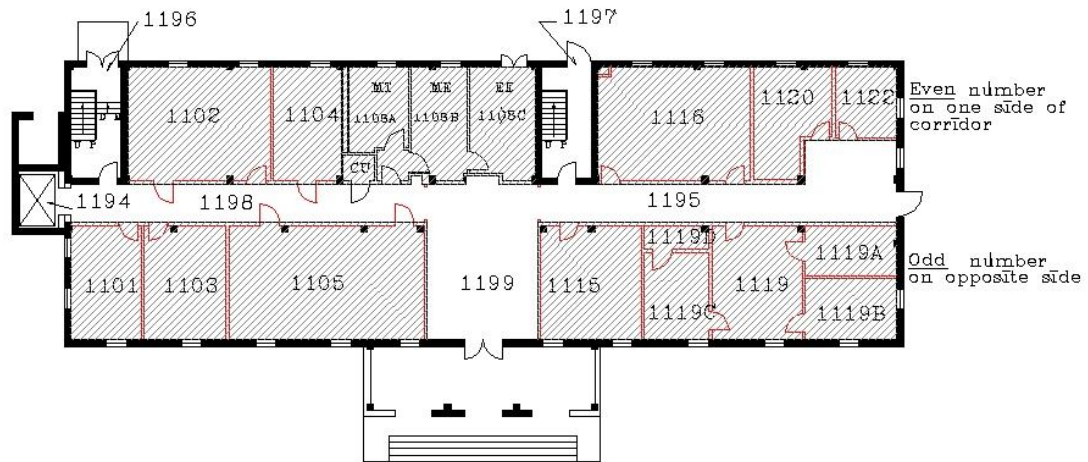

Figure 3
- All public corridors, lobbies, elevators, lifts, and stairways will be numbered starting from 99 and going down, i.e., 1199, 1198, 1197, 1196, etc. (See FIGURE 3.)